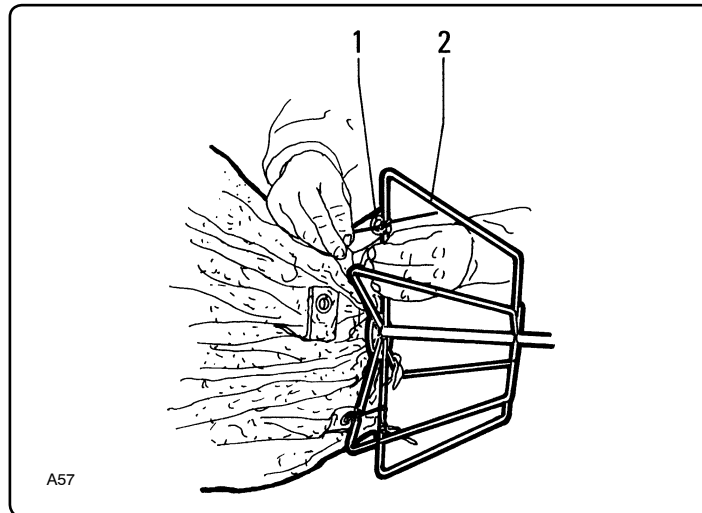

Fig. 7.5.2
- Unscrew cage “6” and overturn the filter, exposing coupling clamp “10” fig. 7.5.2.
- Insert cage "2" fig. 7.5.2 and mount it on to the filter by means of clamps "1" on the bottom of the filter.